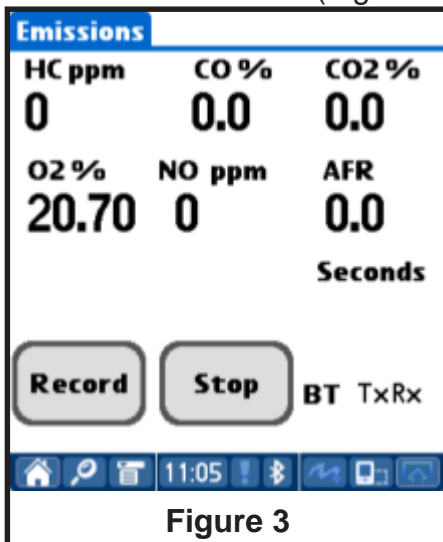
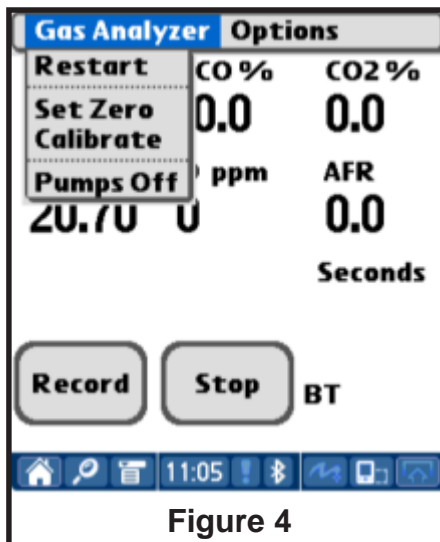
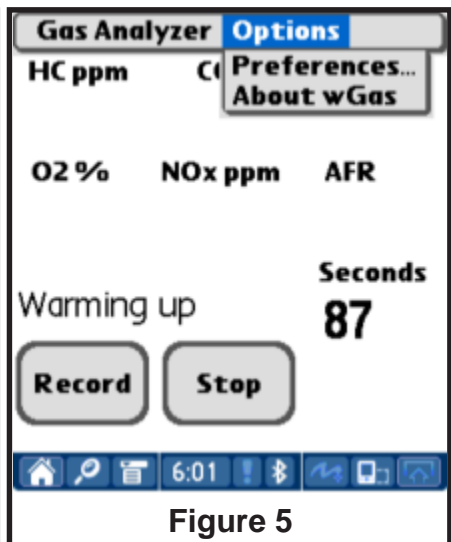

Figure 3
Figure 4
Figure 5
4. Figure 3 shows the gas analyzer in sample mode. Tapping the **Emissions** icon in the upper left hand corner, opens two new menu options. **Gas Analyzer** (Figure 4) and **Options** (Figure 5).
5. The drop down box in (Figure 4) controls the gas analyzer:
6. The drop down box in (Figure 5):